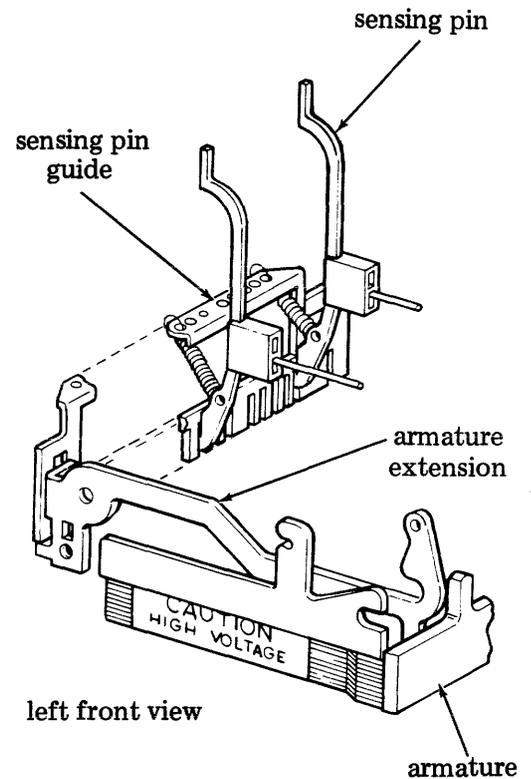
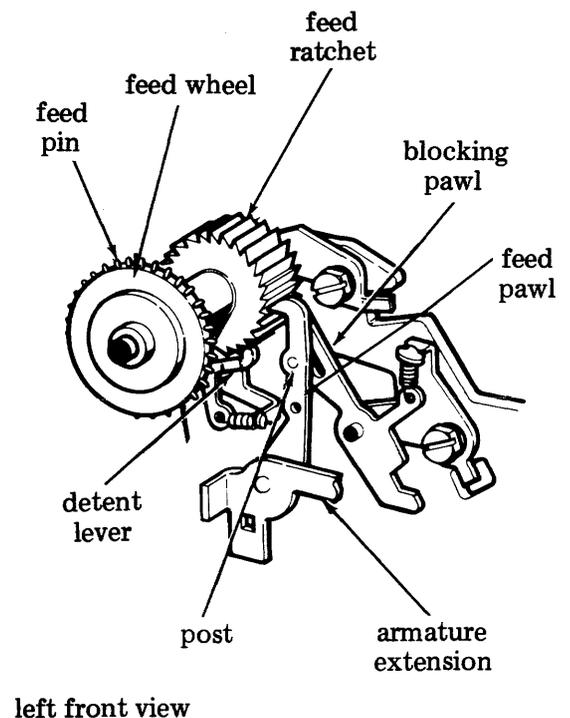

Figure 10 - Sensing Pin Guide
Figure 11 - Tape Feed Mechanism
(d) With the feed magnet de-energized, the armature extensions drop. The sensing pin guide and the sensing pins will start to drop (Figure 10) and clear the tape just before the feed pawl advances the feed ratchet (Figure 11).
3.13 Associated with the feed ratchet are a detent lever and a blocking pawl. The detent lever, with its circular surface engaging the feed ratchet teeth, holds the feed ratchet and feed wheel in its correct position during sensing (Figure 11).
3.14 The blocking pawl, which rides a post on the feed pawl, is lowered into engagement with a feed ratchet tooth during the feed stroke. This is to prevent excessive overthrow of the feed wheel, without the use of a heavy detent spring. During the upstroke of the armature extensions, the blocking pawl is rotated out of engagement with the tooth by the post on the feed pawl (Figure 11).